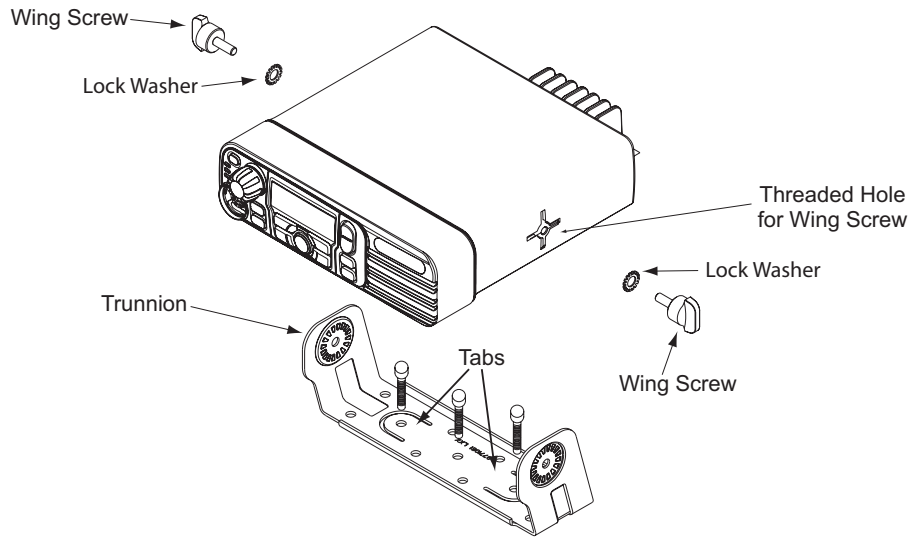
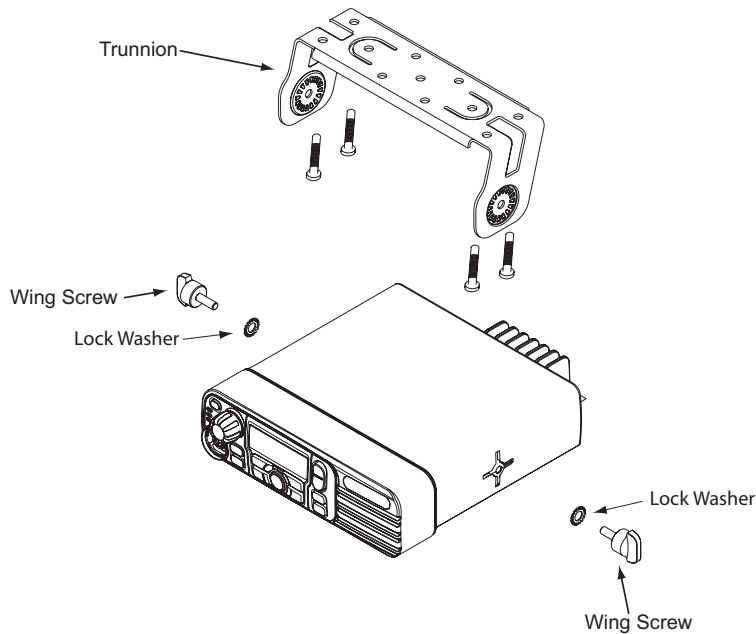

Figure 3-4 Transmission Hump Trunnion Mounting
Figure 3-5 Below Dash Trunnion Mounting
1. Select the location to mount your radio on the transmission hump (see Figure 3-4) or under the dash (see Figure 3-5). When mounting the trunnion on the transmission hump take care the transmission housing is not affected.
4. Secure the trunnion mounting bracket with the self-drilling screws provided. The number of screws used will depend on how the radio is mounted (see Figure 3-4 and Figure 3-5).
5. Position the radio to align the trunnion with the trunnion mounting features on the radio (see Figure 3-4). Secure the radio with the two wing screws and lock washers provided.